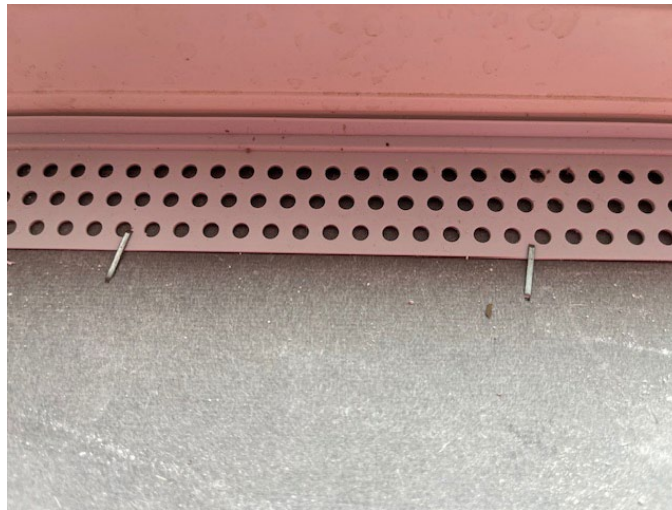

Figure 14-12. Final Staple Securement of Edging Strips.
10. Once the edging strips have been stapled per Step 9 above, complete installation by stapling down the interior edge of the edging strips every 6"– 9" (see Figure 14-12).